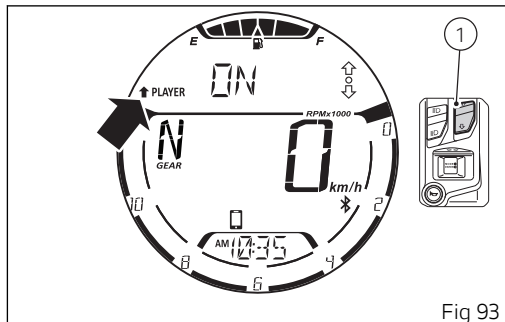

Fig 93
If the music player was activated (ON) and you exited the control to move to other functions, to reactivate the controls of the music player select the "Music player management (PLAYER)" function in the menu and press button (1) for 2 seconds (Fig 93).